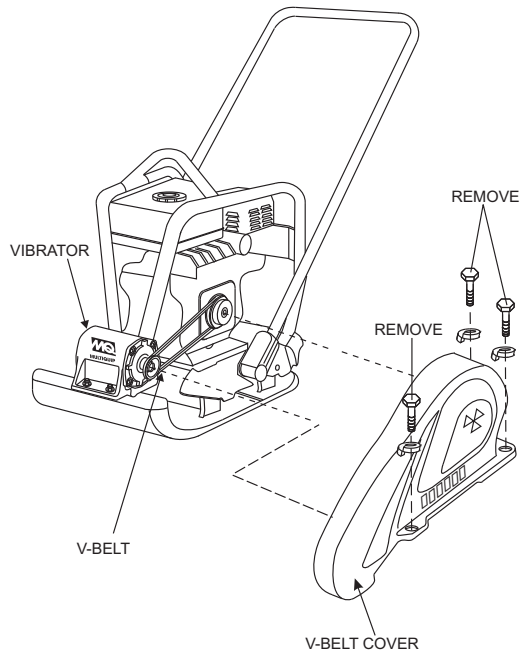

Figure 20. V-Belt Check
1. Remove the V-belt cover (Figure 20).